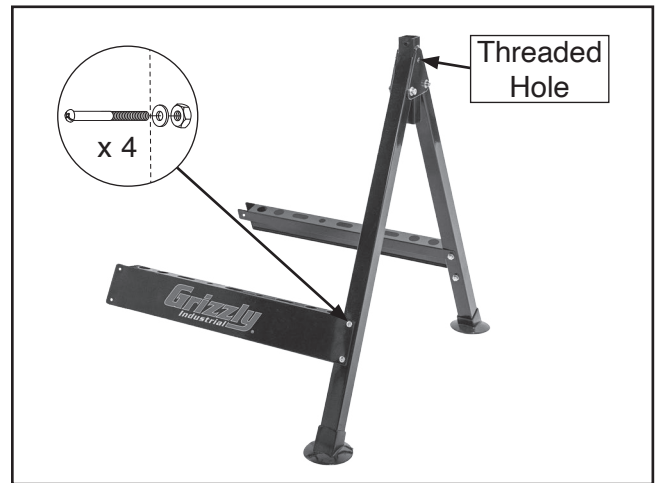

Figure 5. Braces secured to stand leg.
2. Slide (2) leg braces over (1) stand leg, with threaded hole facing away from braces (see **Figure 5**), and secure with (4) M6-1 x 37 Phillips head screws, 6mm flat washers, and M6-1 hex nuts.